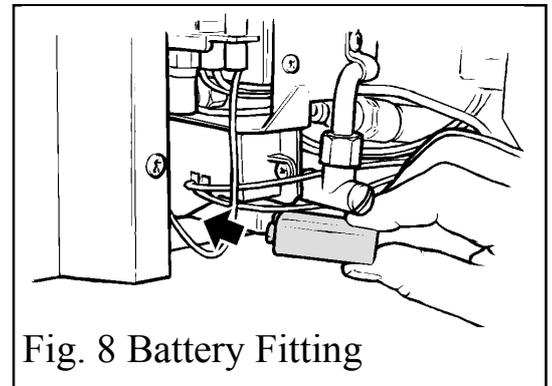
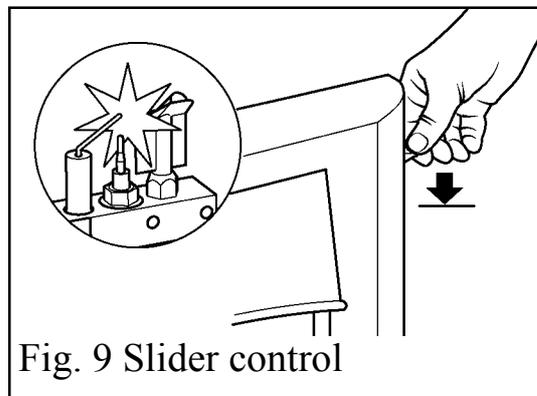

Fig. 8 Battery Fitting
Fig. 9 Slider control
- Fit the battery to the ignition block located below the burner tray at the left side (see figure 8). The positive terminal (+) is to the right as you insert. Depress the slider as far as it will go. This should close the ignition circuit. Sparks should be seen tracking from the electrode pin to the thermocouple tip. See figure 9.